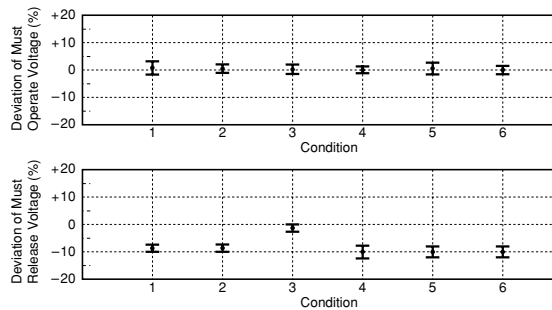

Figure 3.8 Magnetic Interference
This section describes changes in the operate voltage caused by mutual magnetic interference when several relays are closely mounted on a printed circuit board (PCB). Figure 3.8 (1) shows the distance among the relays mounted on the PCB. As shown, the pin pitch of each relay is 2.54 mm. Figure 3.8 (2) shows the relay that is subject to interference. In this figure, the hatched relay shown in the center of each relay arrangement is subject to interference, and the surrounding relays influence the center relay. The condition under which the center relay suffers interference and the surrounding relays affect the center relay differs depending on whether power is supplied to each relay. Figure 3.8 (3) shows the deviation in percent of the operate and release voltages of the center relays in Figure 3.8 (2).